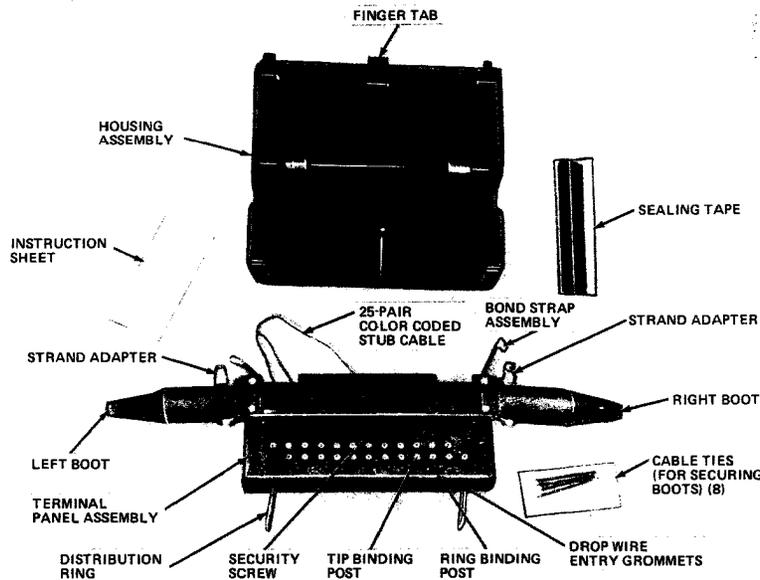

Fig. 1—105A2-25 Cable Terminal
2.01 Figures 1, 2, 3, and 4 illustrate the 105-type cable terminals. Table B lists the cable terminals and their features. Table C shows the maximum capacities of each terminal when using alpeth sheath cable.